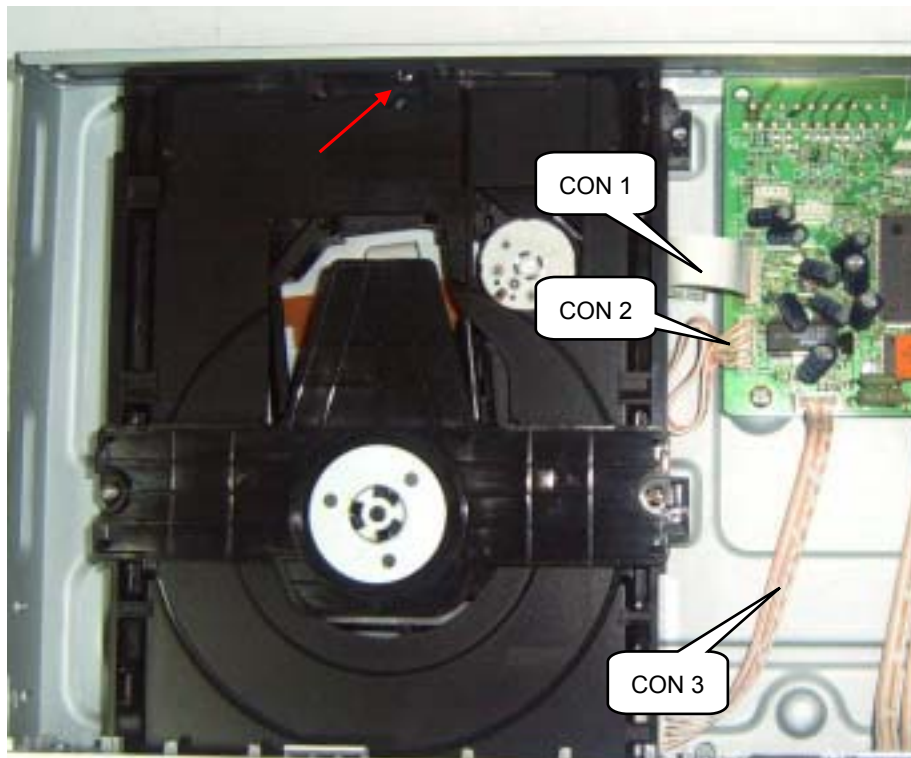

Figure 4
Step4: Dismantling Loader, disconnect the 3 connectors aiming in the below figure, and remove 1 screw at the bottom of Loader. (Figure 4)